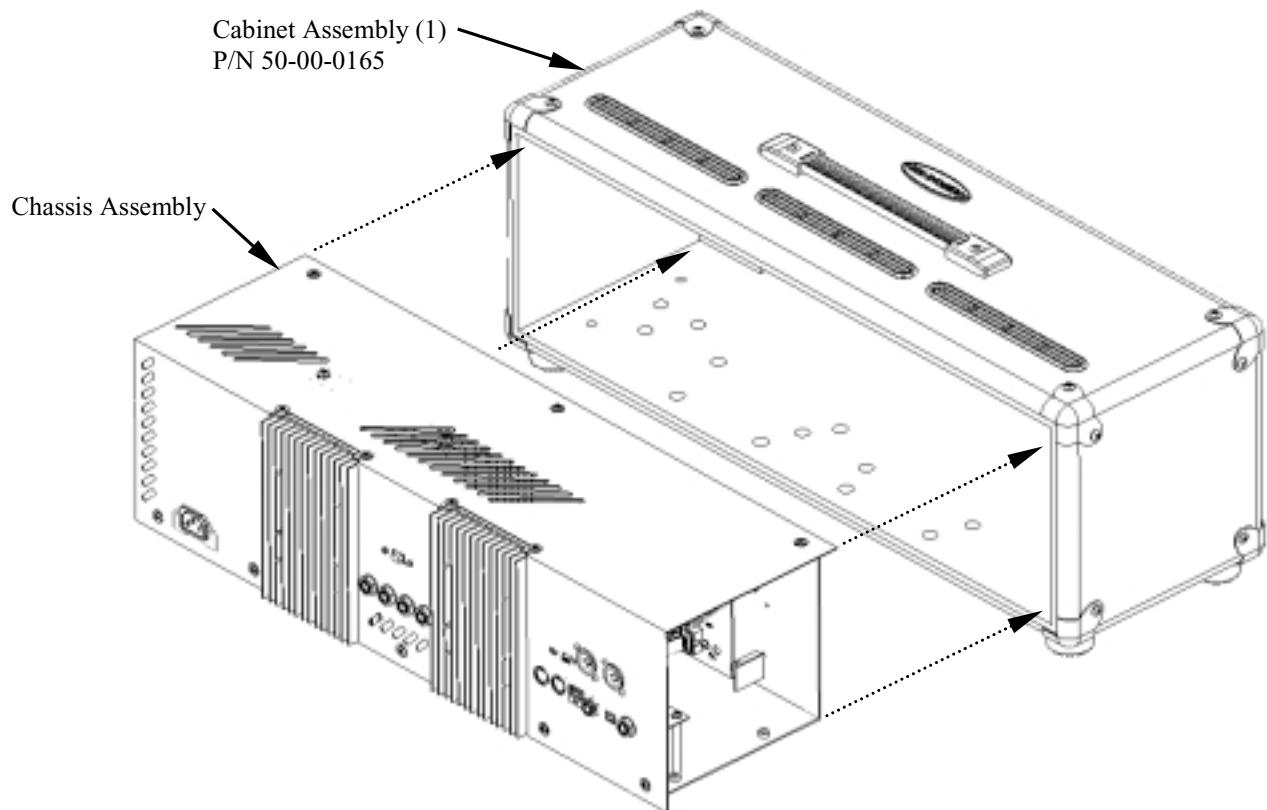

Figure 28
- b. Install Chassis assembly into Cabinet. See figure 28.